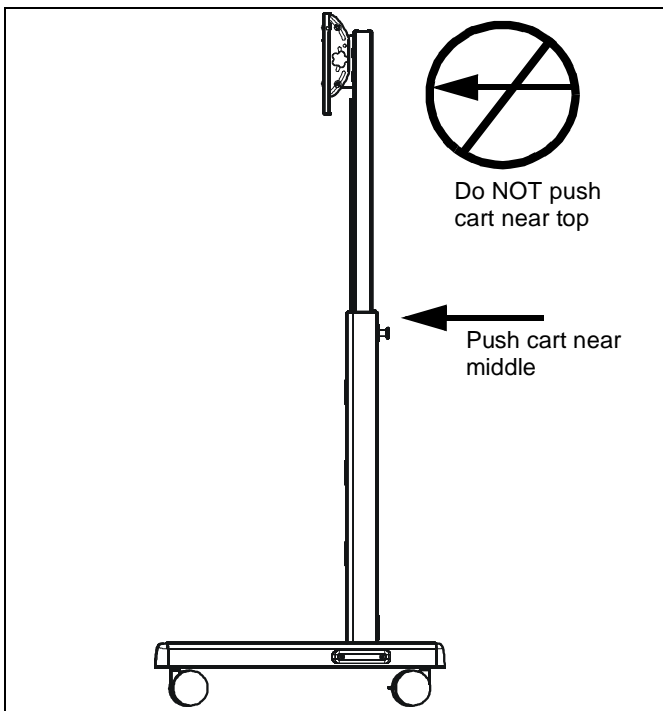

Figure 13
**WARNING:** CART CAN TIP OVER RESULTING IN RISK OF INJURY! Do not allow children under 16 to move cart. Only adults should move this cart. Move cart slowly. Apply moving force on narrow dimension. Never apply force at top - always push near middle. Push, don't pull cart. (See Figure 13)